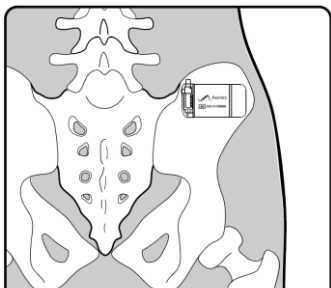

Figure 3: Axonics Neurostimulator Implantation Position.
- The Neurostimulator should be implanted horizontally (**Figure 3**) with the ceramic side farthest from the patient's midline to facilitate charging and programming.
recharging (**Figure 3**). The etched writing can face either towards or away from the muscle tissue. Ensure that the lead curves gently away from the Neurostimulator with no sharp bends.